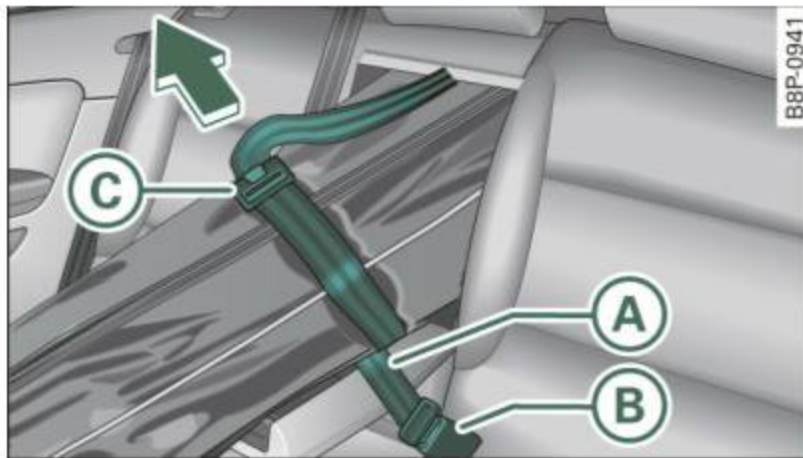

Fig. 87 Securing the ski sack at the center rear seat belt buckle
- Insert the ski sack strap ⇒ fig. 87 (A) into the center seat belt buckle (B).
- Take the long sides of safety strap buckle between thumb and forefinger ⇒ fig. 87 (C).